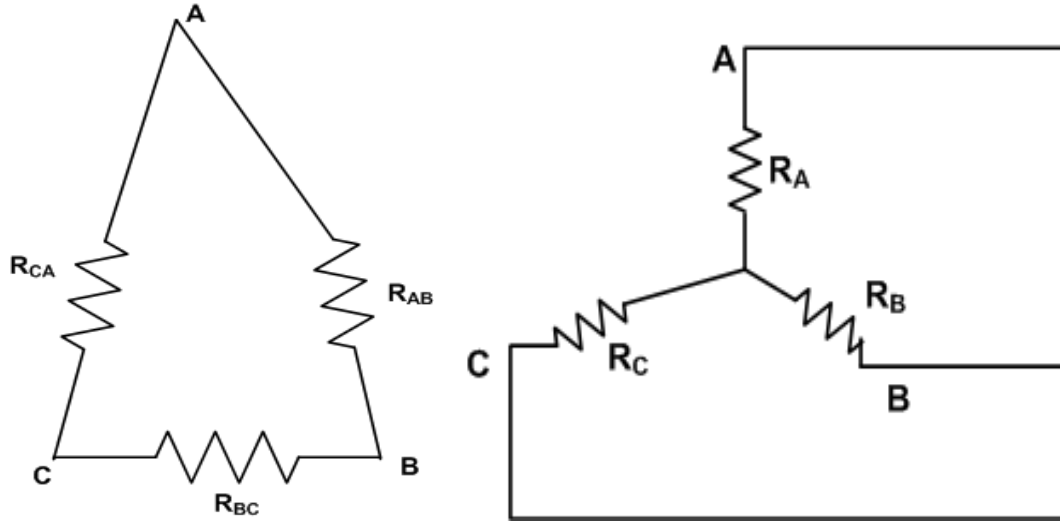

Fig. 1.4.1.
1.4.1. **Delta to Star Conversion**:- From Fig. 1.4.1 (a), Δ : Between A & B, there are two parallel path.
From Fig. 1.4.1 (b), STAR: Between A & B two series resistances are there $R_A + R_B$. So, terminal resistances have to be the same.